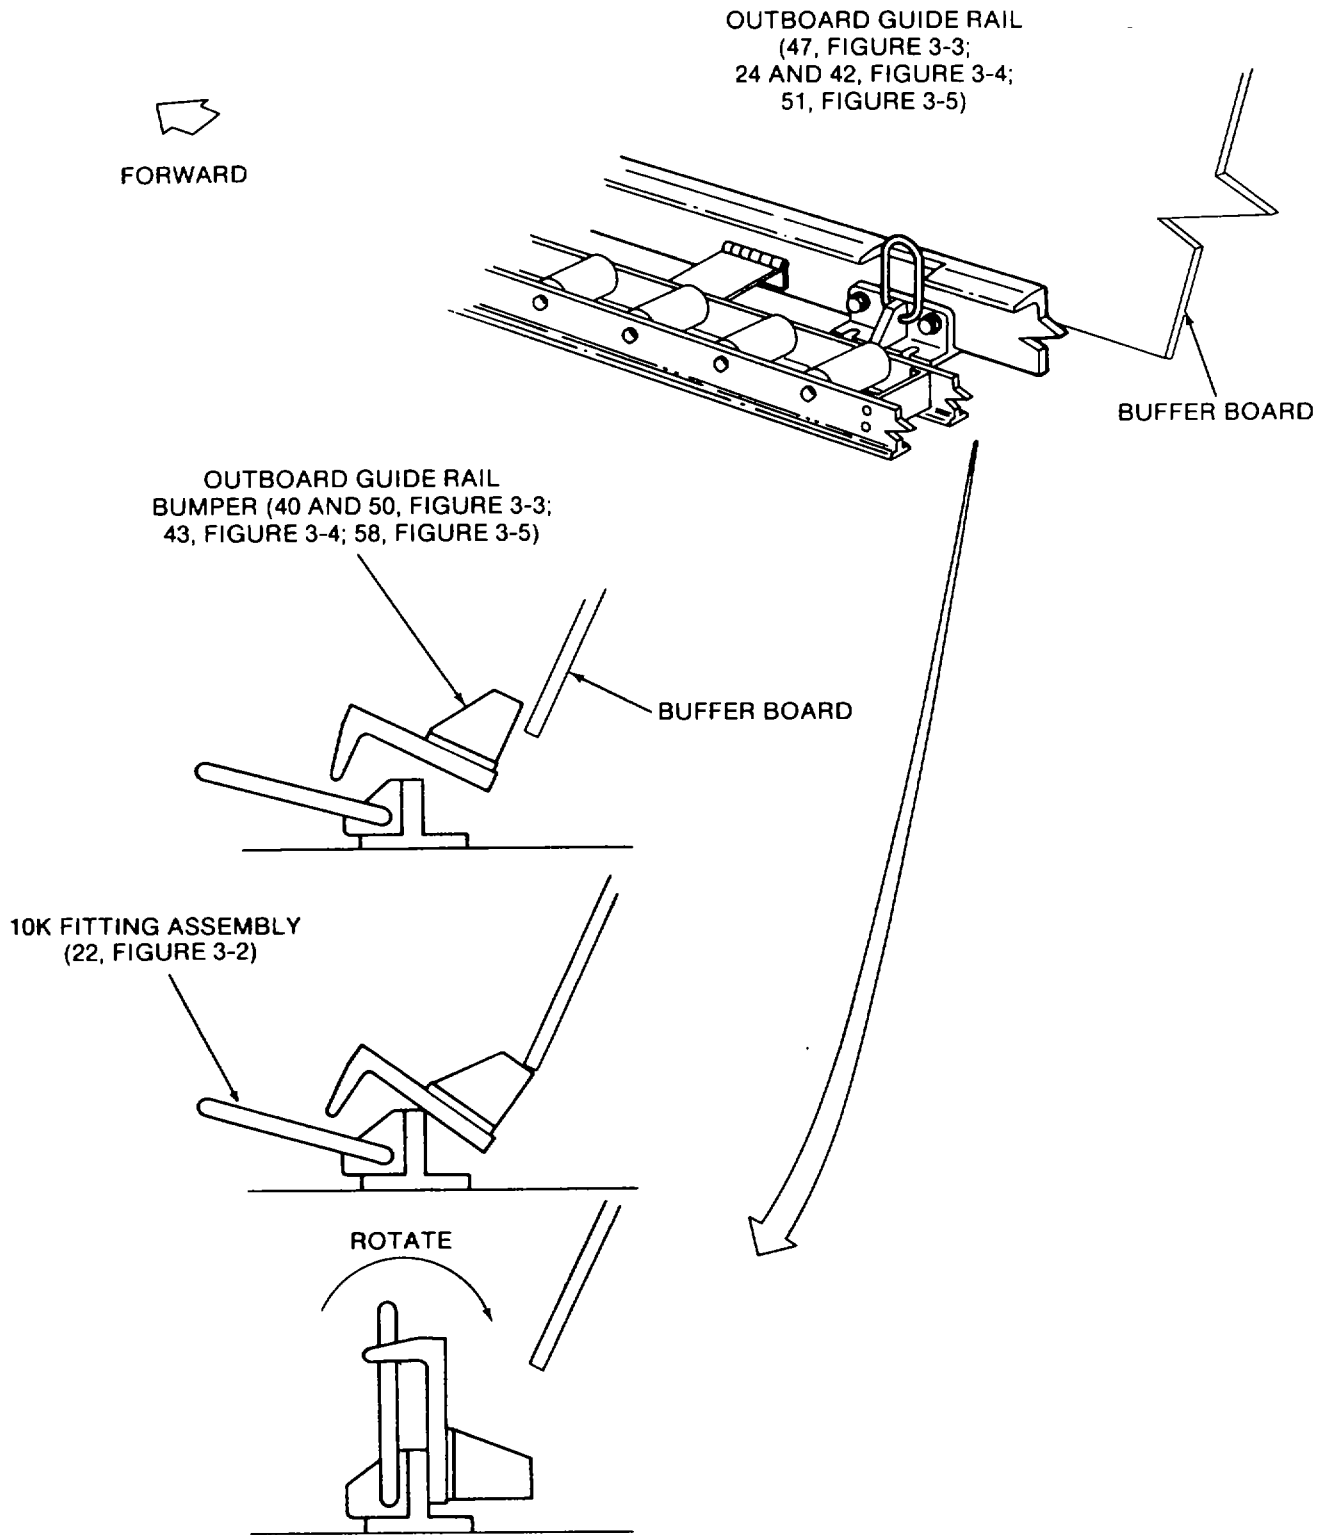

Figure 2-5. Typical Rail Installation
(b) Angle outboard guide rail (47, Figure 3-3; 24 or 42, Figure 3-4; or 51, Figure 3-5) such that bumper is clear of or just touching buffer board (Figure 2-5). The buffer board may be trimmed, as required, for installation clearance.
(c) Rotate outboard guide rail (47, Figure 3-3; 24 or 42, Figure 3-4; or 51, Figure 3-5) outboard to vertical. Some fore and aft movement may be necessary to do this if interference occurs (Figure 2-5).
(d) Attach both outboard rail/roller assemblies (1 and 2, Figure 3-2) to the two forward 10k fitting assemblies (22), at station 240.000. Refer to Figures 2-5 and 2-6.
(e) Attach outboard rail/roller assemblies, stations 272.531 to 374.000 (3 and 4) to 10k fitting assemblies (22) at station 320.000. Refer to Figures 2-5 and 2-6.
(f) Attach outboard rail/roller assemblies, stations 373.469 to 487.000 (5 and 6, Figure 3-2) to 10k fitting assemblies (22) at stations 400.00 and 481.780. Refer to Figures 2-5 and 2-6).